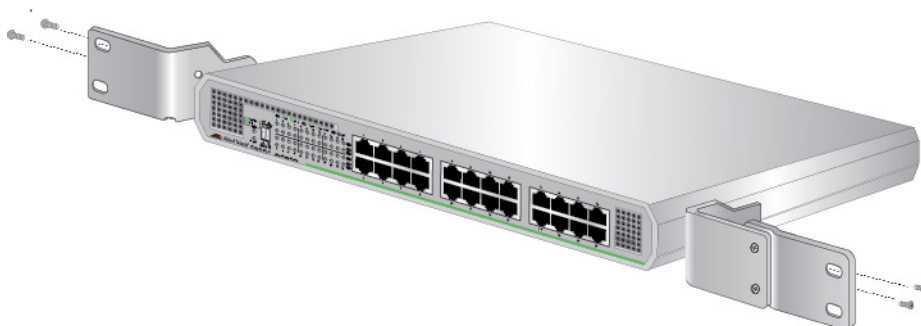

Figure 30. Attaching the Brackets to the Switch
3. Attach the brackets to the switch with the M3x6mm screws using a Phillips-head screwdriver. See Figure 30.